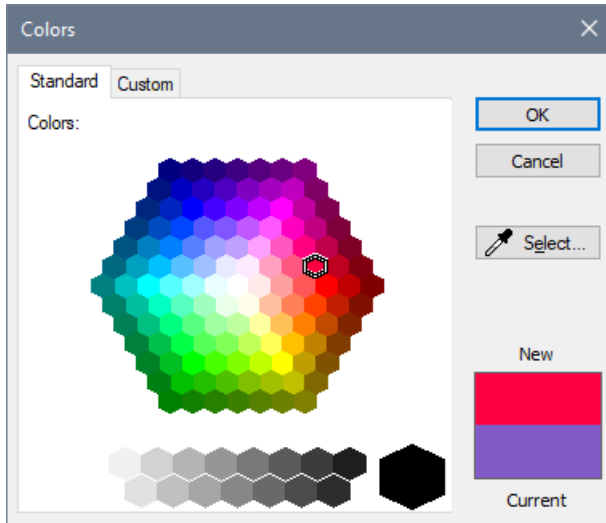

Figure 27.6. Colours dialog box (To assign certain colour for the section)
- ⇒ In the **Reinforcement** dialog box, click any colour in the list. In the **Colours** dialog box (see Fig. 27.6), click the **Select** button.